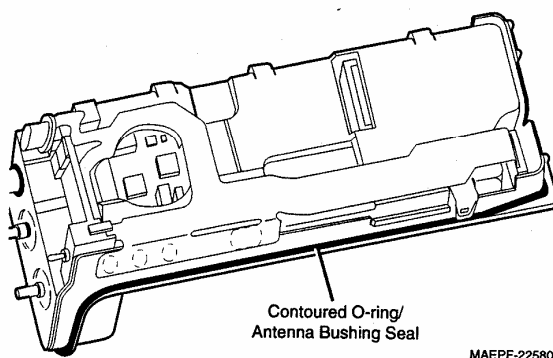

Figure 12
1. Install the contoured O-ring/antenna bushing seal around the antenna and in the groove provided (see figure 12).